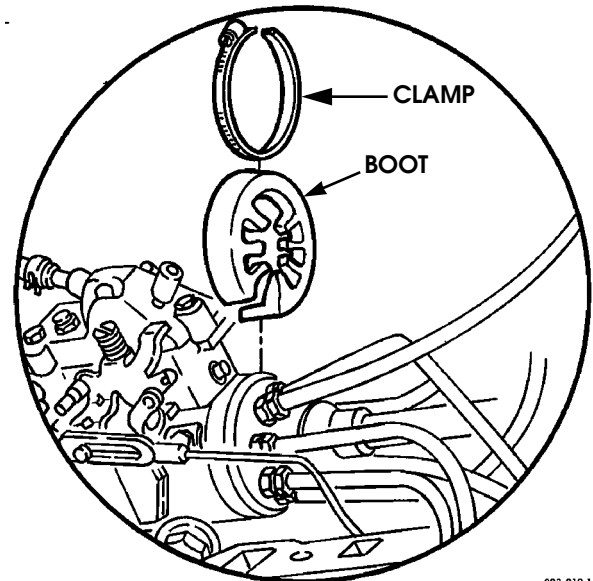

Figure 3-44: Injection Pump Boot Installation (NA Diesel Shown)
2. Slide new boot into place. Make sure it is seated on all fuel lines (Figure 3-44).